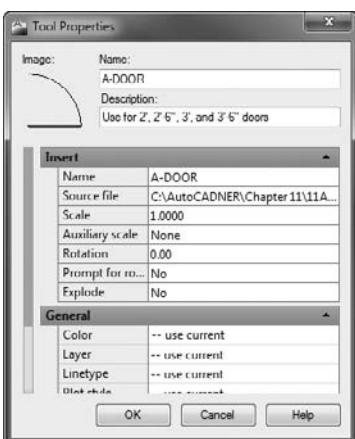

FIGURE 11.29 The Tool Properties dialog box
It displays information about A-DOOR and provides a means to change many parameters (see Figure 11.29).
11. Change the Description for the A-DOOR tool to “Use for 2', 2'-6", 3', and 3'-6" doors” so the tooltip will more accurately describe the block's intended application (see Figure 11.29).